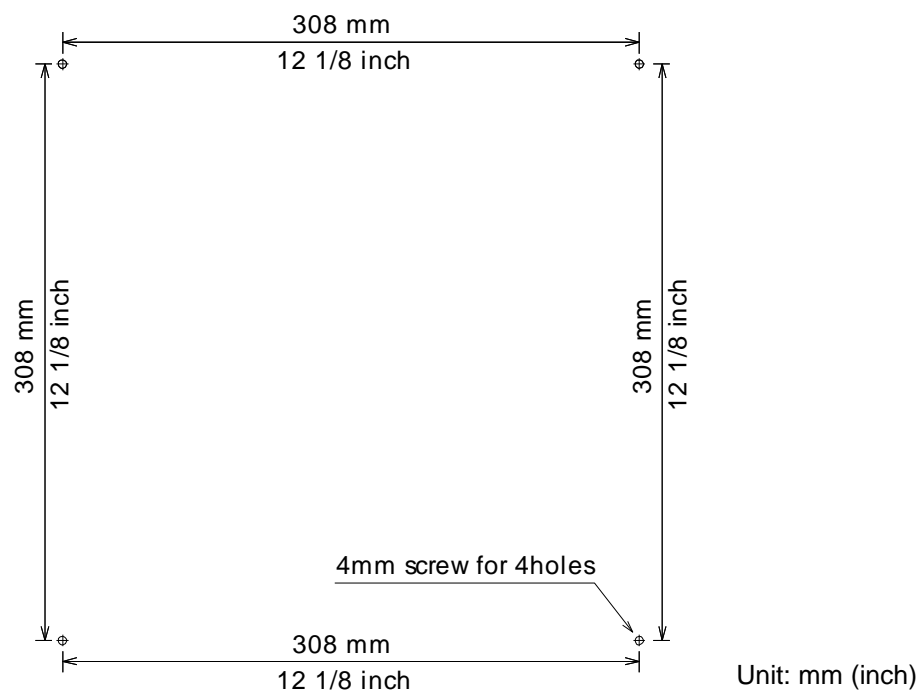

Figure 3.13 Holes for mounting a Processor unit
- (1) Drill four nut-holes with the size shown in Figure 3.13.
- (2) Fit the Processor unit.